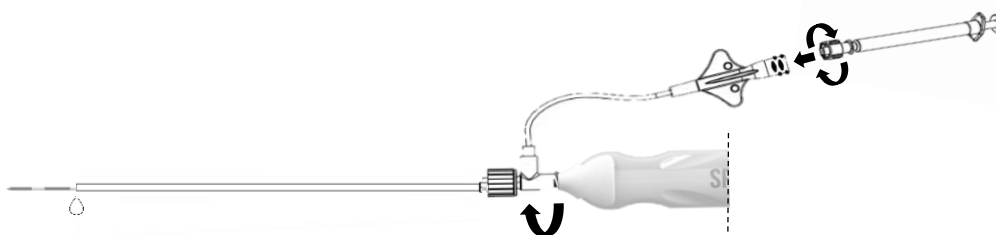

Figure 14 – Connecting the Isolation and Irrigation Needle and Cannula
3. Connect the isolation and irrigation cannula to the probe (Figure 14) via the luer lock port.